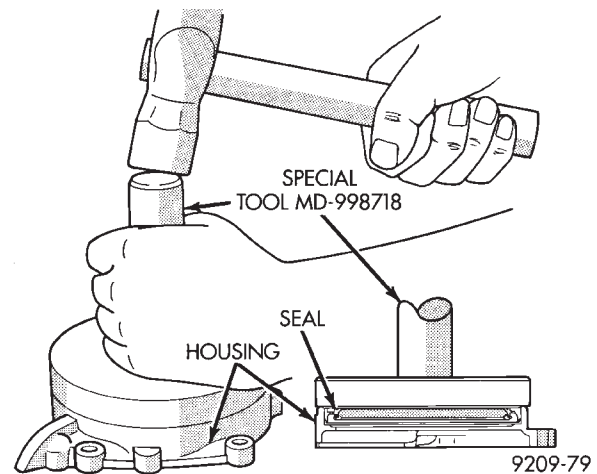

Fig. 82 Install Crankshaft Rear Oil Seal
- (1) Inspect and clean all sealing surfaces.
- (2) Install rear crankshaft oil seal in housing with Special Tool MD-998718 (Fig. 82).